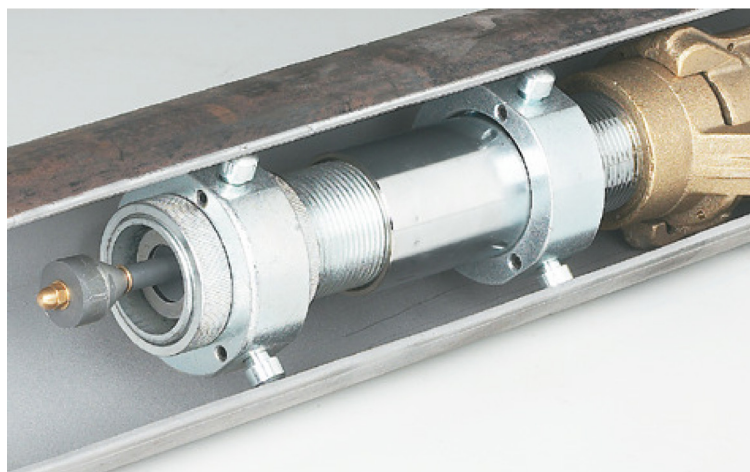

Figure 2
- (a) *Collar and Button System* (Part No. IPC4100). This system has two collars. The collar with the larger I.D. mounts over the groove in the tool holder; the other mounts over the groove in the tip protection sleeve (see Figure 2). The collars are held in place by socket head set screws which tighten into the grooves. The allen wrench for these screws is provided with the ConeBlast™.